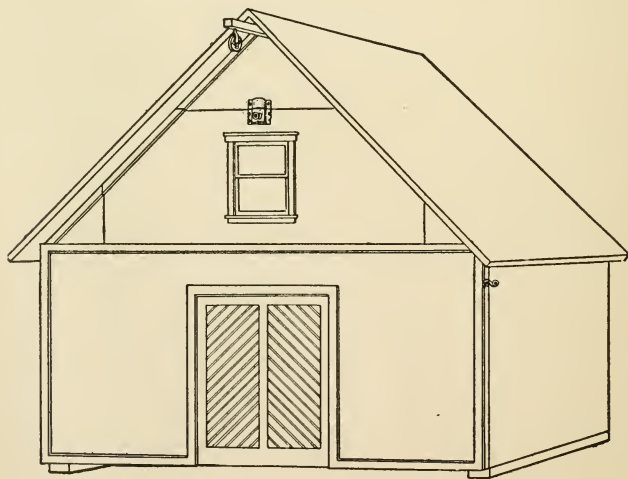

FIG. 114. — Exterior of Stable.
The stable shown in Figs. 114 and 115, and in the background of Fig. 96, will go nicely with the house described in this or the preceding chapter. Its con-
**Feed-hoist** (see Fig. 114).
**A Drop-front**, as shown in Figs. 114 and 115. This is made from the box-cover. Fasten the boards together with battens placed upon the inside, and hinge it to the bottom of the stable. Nail two cleats to the under side of the floor (see Fig. 114) to lift it off the ground, just enough to allow the front to drop without springing its hinges.
**Represent a Stable Door** on the outside (see Fig. 114). This is done with paint and a fine brush. First paint a green panel in the centre of the front, and then mark off a couple of panels within this space with black paint, and stripe them diagonally to represent beaded-boards.